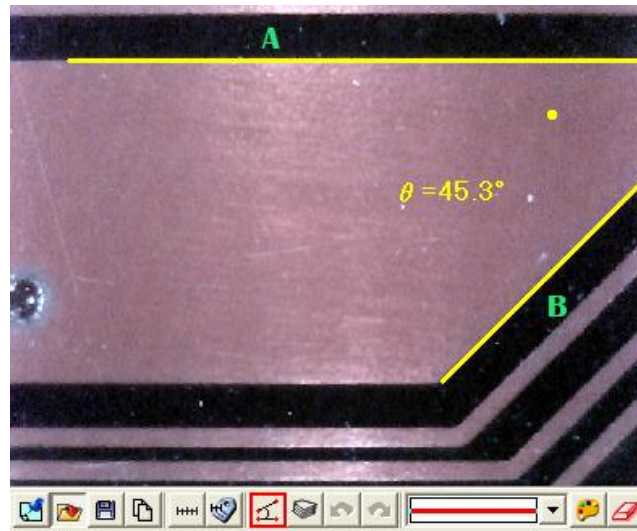

Fig 5-70 4 Points Fillet
- (9) 4 Points Angle: Use  to measure an angle but only see 2 unparallel lines shown on the object. See Fig 5-70, to draw a 1st line from the object (see line A), and to draw the other unparallel line (see line B), the angle can be
automatically calculated. See Fig 5-70. There is a small dot show 45.3°.